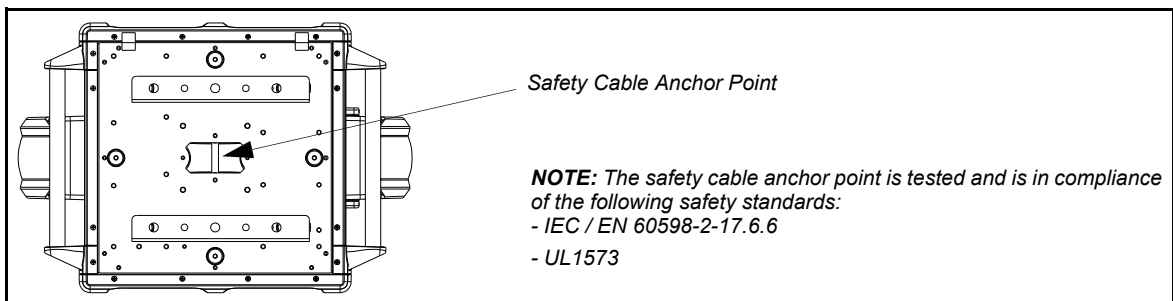

Figure 2-9: Safety Cable Installation / Luminaire Hanging
- Step 3. Attach safety cable (as required) as follows (refer to Figure 2-9 on page 23):